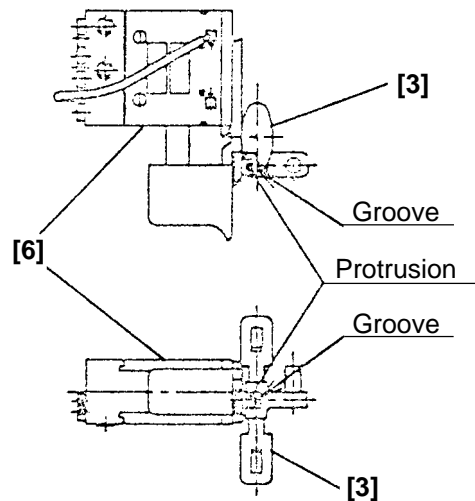

Fig. 35
- (d) Mount the Pushing Button (A) [3] mating its groove to the protrusion on the lever of the Switch [6] (Fig. 35).